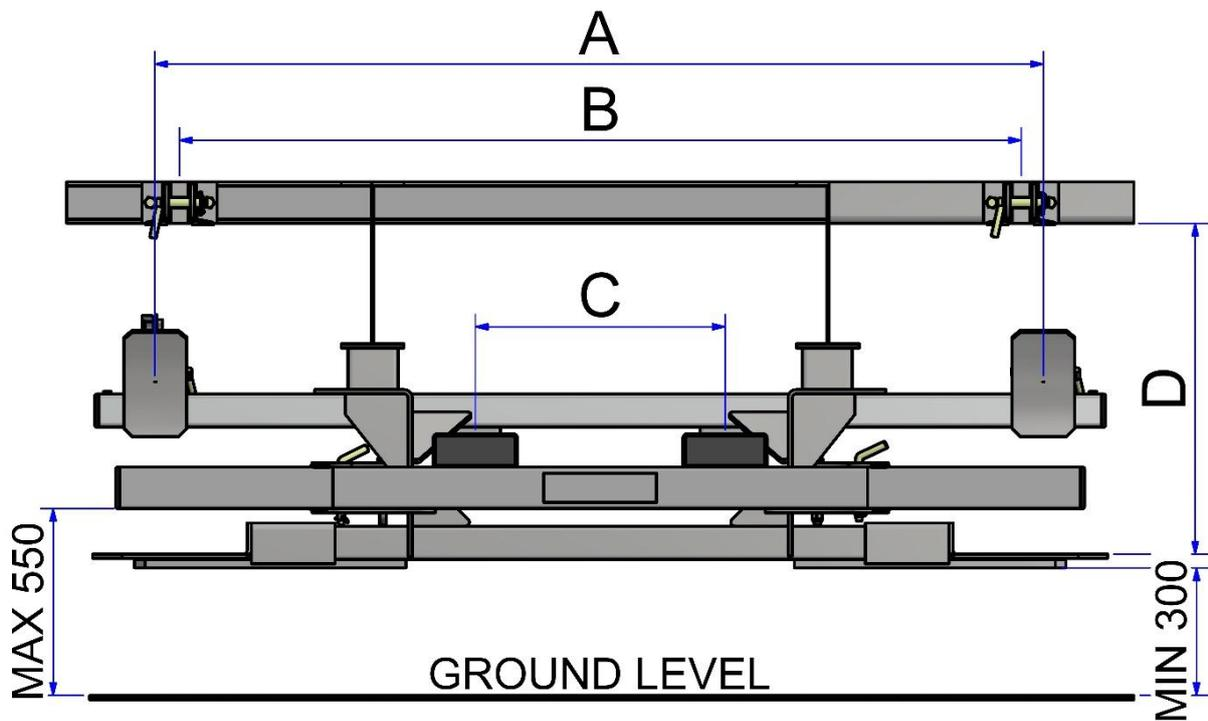

Figure 11 (Front View with Dimensions)
The kit's dimensions will need to be adjusted based on the specific TMF machine to be mounted. Refer to Figure 11 below for the dimensions, and consult Tables 3 and 4 for their corresponding values
- It is important to refer to Figure 11 and Table 3 or 4 (above), depending on the brand of forklift you intend to mount when welding this section